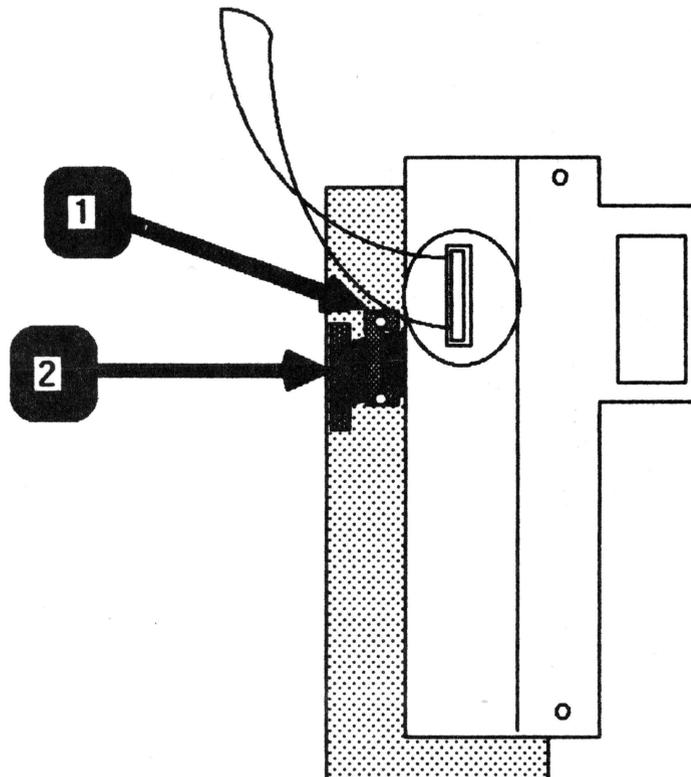

FIGURE 9
5. Use a jeweler's Phillips screwdriver to remove the screws located at either side of the cable clamp (Figure 9, #1).
6. Disconnect the ribbon cable (Figure 9, #2) from the connector box, then lift the box completely out of the case.
1. Connect the ribbon cable to the socket at the bottom of the metal connector box. Push the connector down into the socket as far as it will go. (See Figure 9, #2.)
2. Replace the cable clamp as shown in Figure 9, #1.